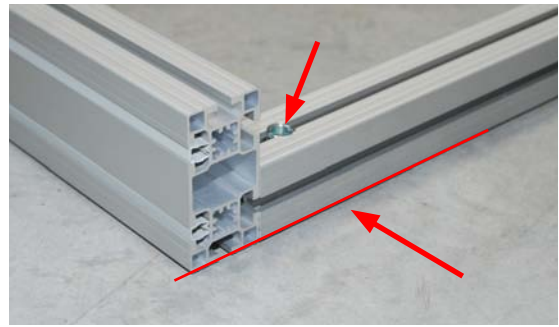

fig. 3.2-5
**Step ③** Insert a long frame profile **A2c** into the lower lead channel (towards the floor) between the side supports **A2a**. The ends of the frame profile and the side supports have to be on the same level and need to be flush-mounted (**fig. 3.2-5**). The cross pieces of the profile connectors should point upwards (towards you). Now tighten the profile connectors with the corresponding Allen key (ca. 25Nm).